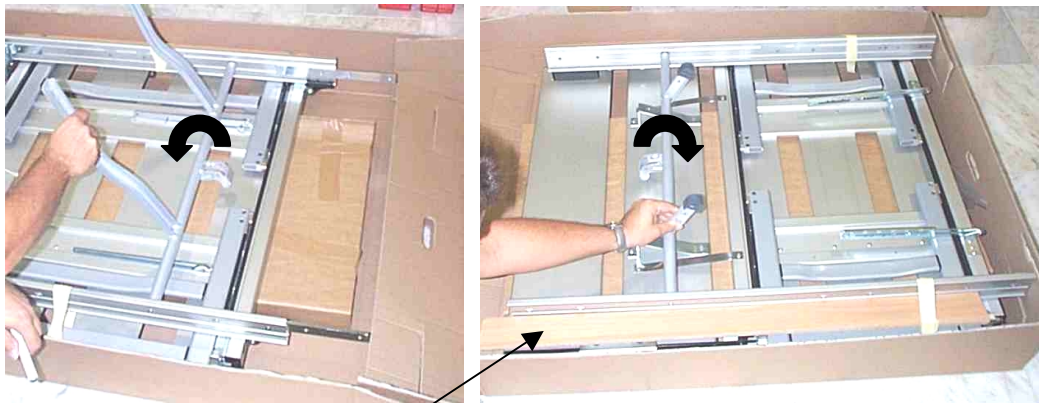

Figure 4
- Push over the head and foot section rotating shafts until they are resting on the underside of the mattress-frame sections (see Figure 4).